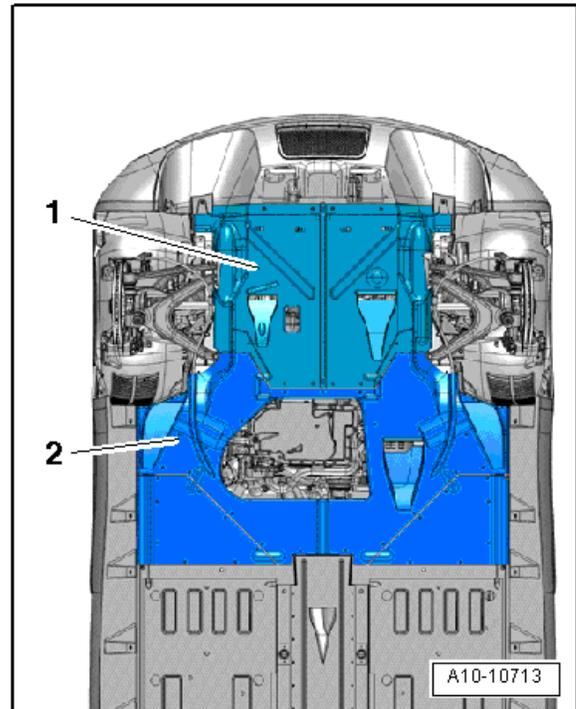

Figure 1. The rear dampening pan.
- a. Remove both sections of rear dampening pan (Figure 1).